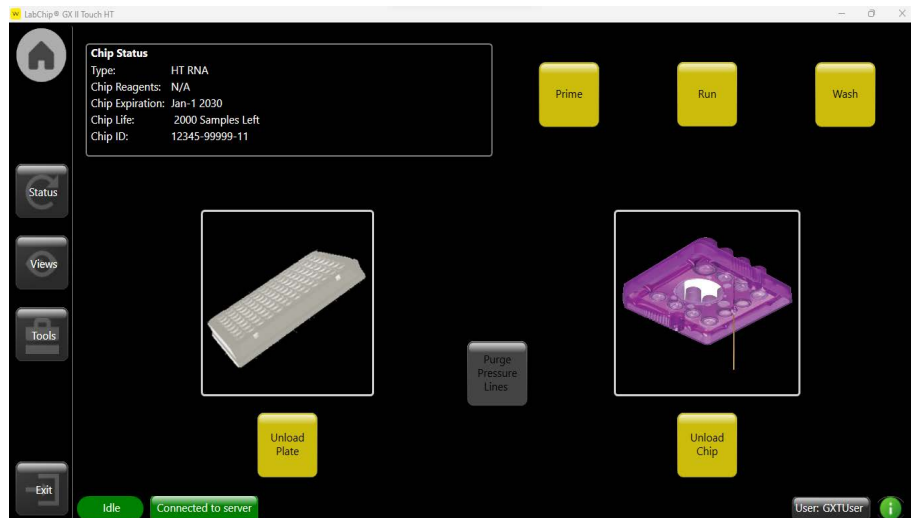
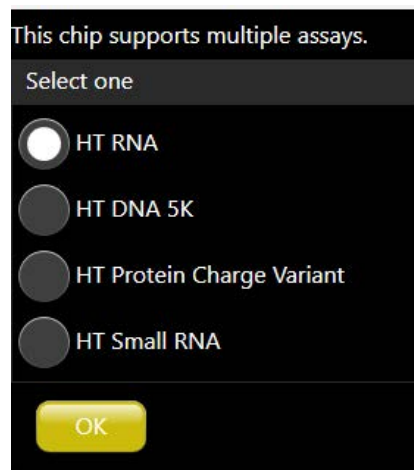
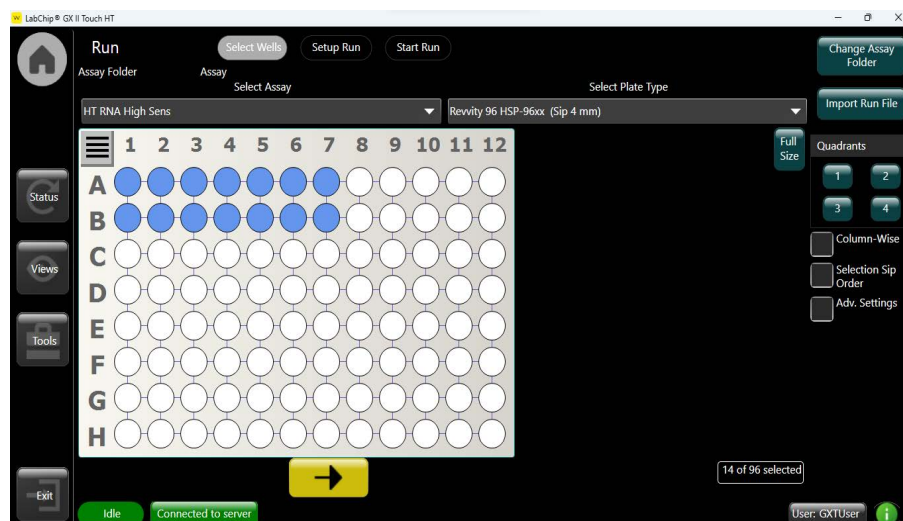
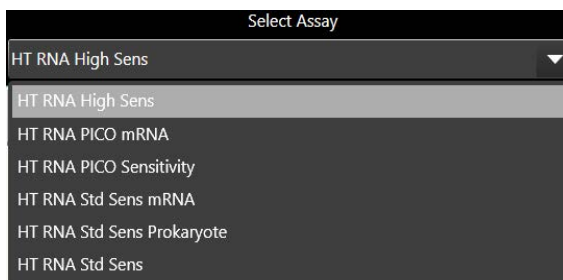

Figure 5. Home screen
Figure 7. Assay Choice screen
Figure 8. Select Wells Tab
Figure 9. Assay Type Drop-Down List
- 4 Touch the **Unload Chip** button on the **Home** screen (Figure 5).
- 6 Touch the **Load Plate** button on the Home screen (Figure 5) to retract the sample plate and move the sipper to the Buffer Tube. The Assay Choice screen opens (Figure 7).
Note: The chip can be primed independently from running assays on the LabChip GX Touch/GXII Touch instrument. Touch the Prime button on the Home screen (Figure 5 on page 11). Select the desired assay from the Assay drop-down list (see Figure 9). Make sure the Buffer Tube is placed in the instrument. Touch the Prime button on the Chip Priming screen.
- 1 Touch the **Run** button on the Home screen (see Figure 5 on page 11). The Select Wells tab opens (see Figure 8).
- 2 Select the desired assay type (see Figure 9). For RNA assays, the valid assay types are: